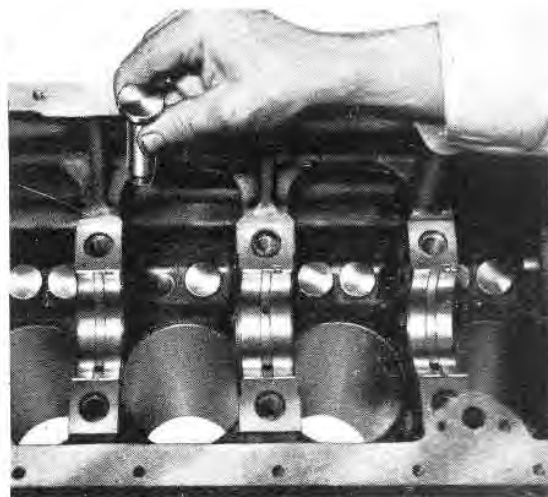

Fig. B46 — Removing a Tappet
1. Refit the tappets (Fig. B46).